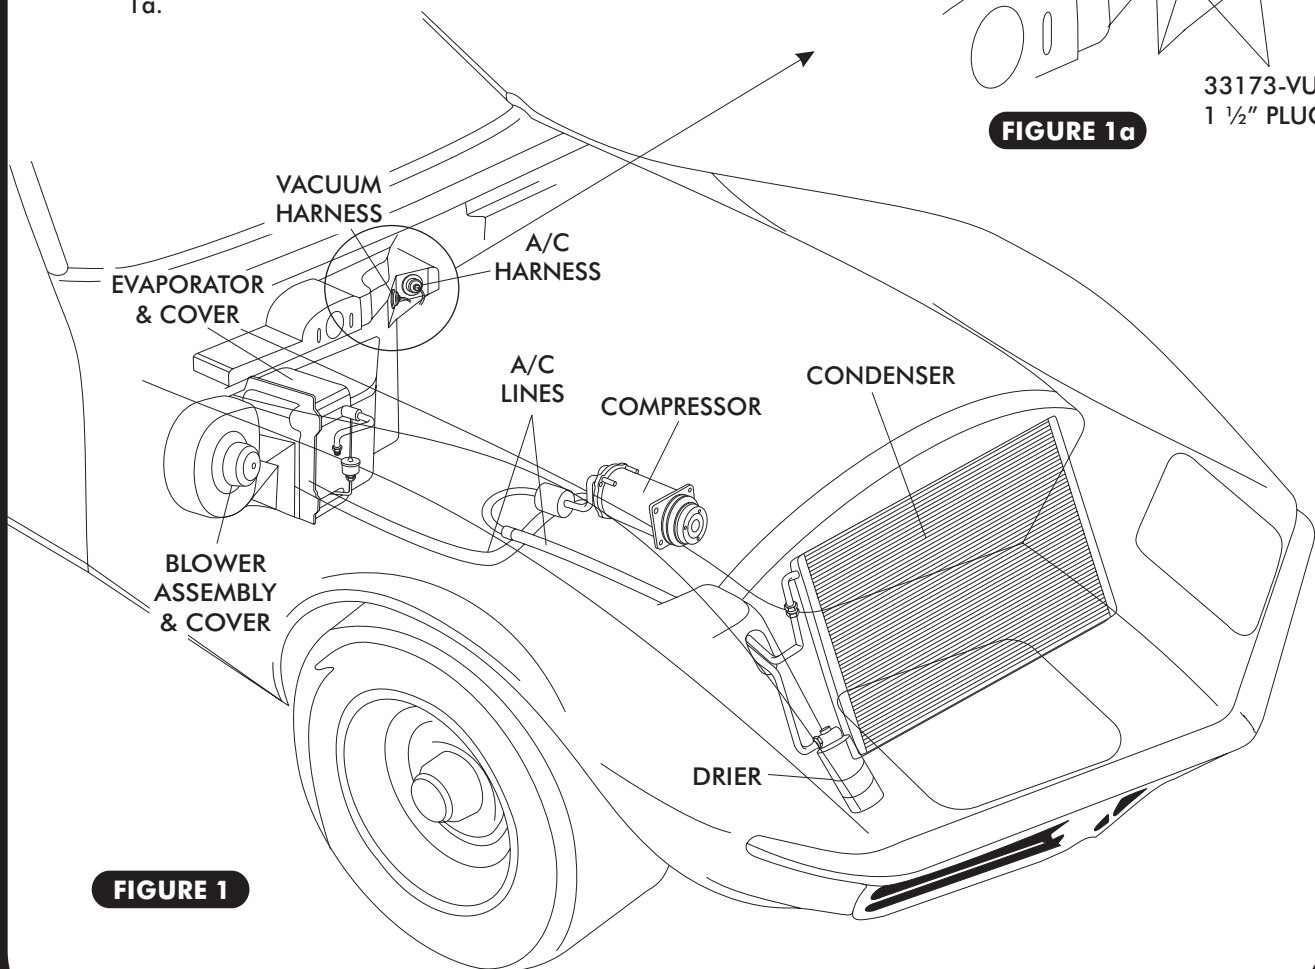

FIGURE 1
6. ENGINE COMPARTMENT FIGURES 1.